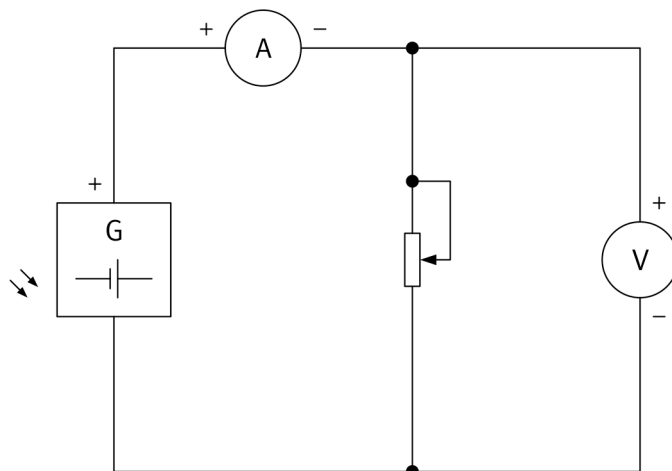

Figure 35. Circuit used to determine the characteristic  $U$ - $I$  curve of a PV module.
14. Modify your circuit as shown in Figure 35 using the “lower” PV module and the potentiometer of the Monocrystalline Silicon Solar Panel.